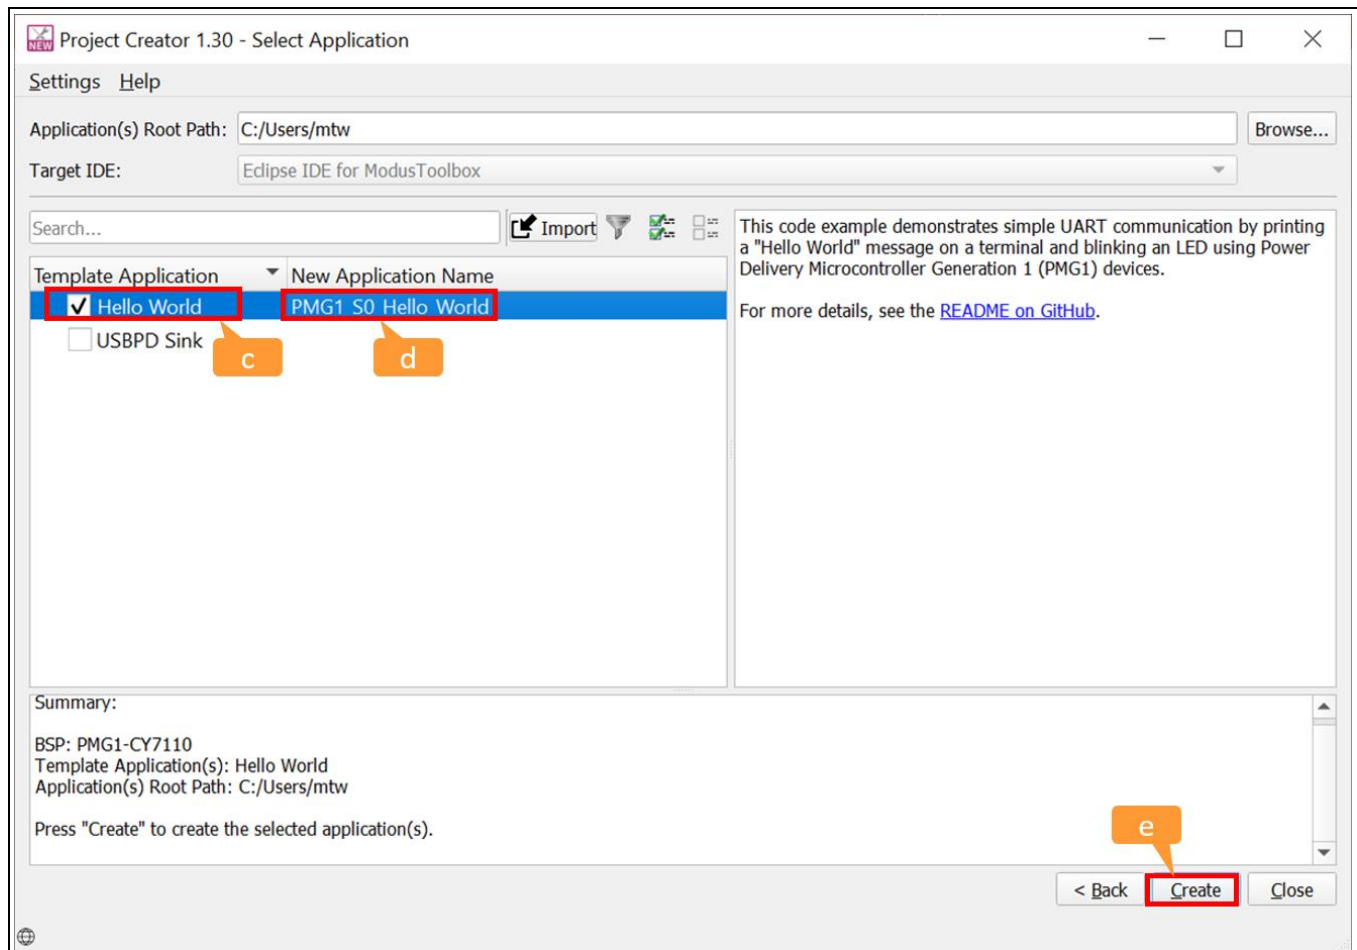

Figure 11 Choose the template application
- In the **Select Application** dialog, select **Hello World** template application, as Figure 11 shows.